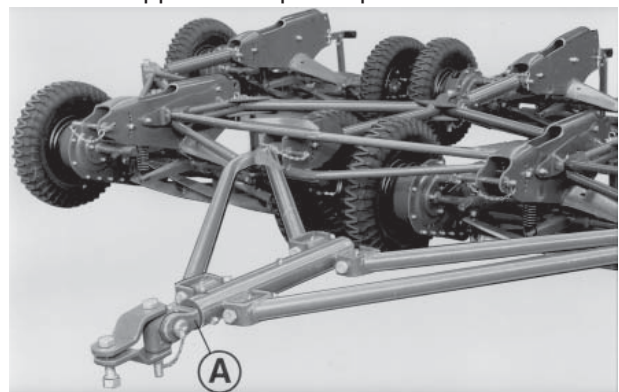

Fig 13
7. coupling frames. Couple the four rear units to the towing point on the extension wings and centre of the twin coupling frames, ensuring that the chains hang below the drawbars. Ensure that the bolts are not overtightened, as this will cause distortion. The coupling must be free to swivel. The lubricating nipples must point upwards. (Fig. 13). Fit the seven unit drawbar (A) into the front of the twin coupling frame using the pins provided and ensuring that the lubricating nipples are pointing upwards. From the short drawbars remove the universal couplings (E) (Fig. 12). Bolt these couplings into the towing hitches on the extension wings and the towing points at the rear of the twin coupling frames. Ensure that the bolts are not overtightened as this will cause distortion. The couplings must be free to swivel. The lubricating nipples must point upwards.